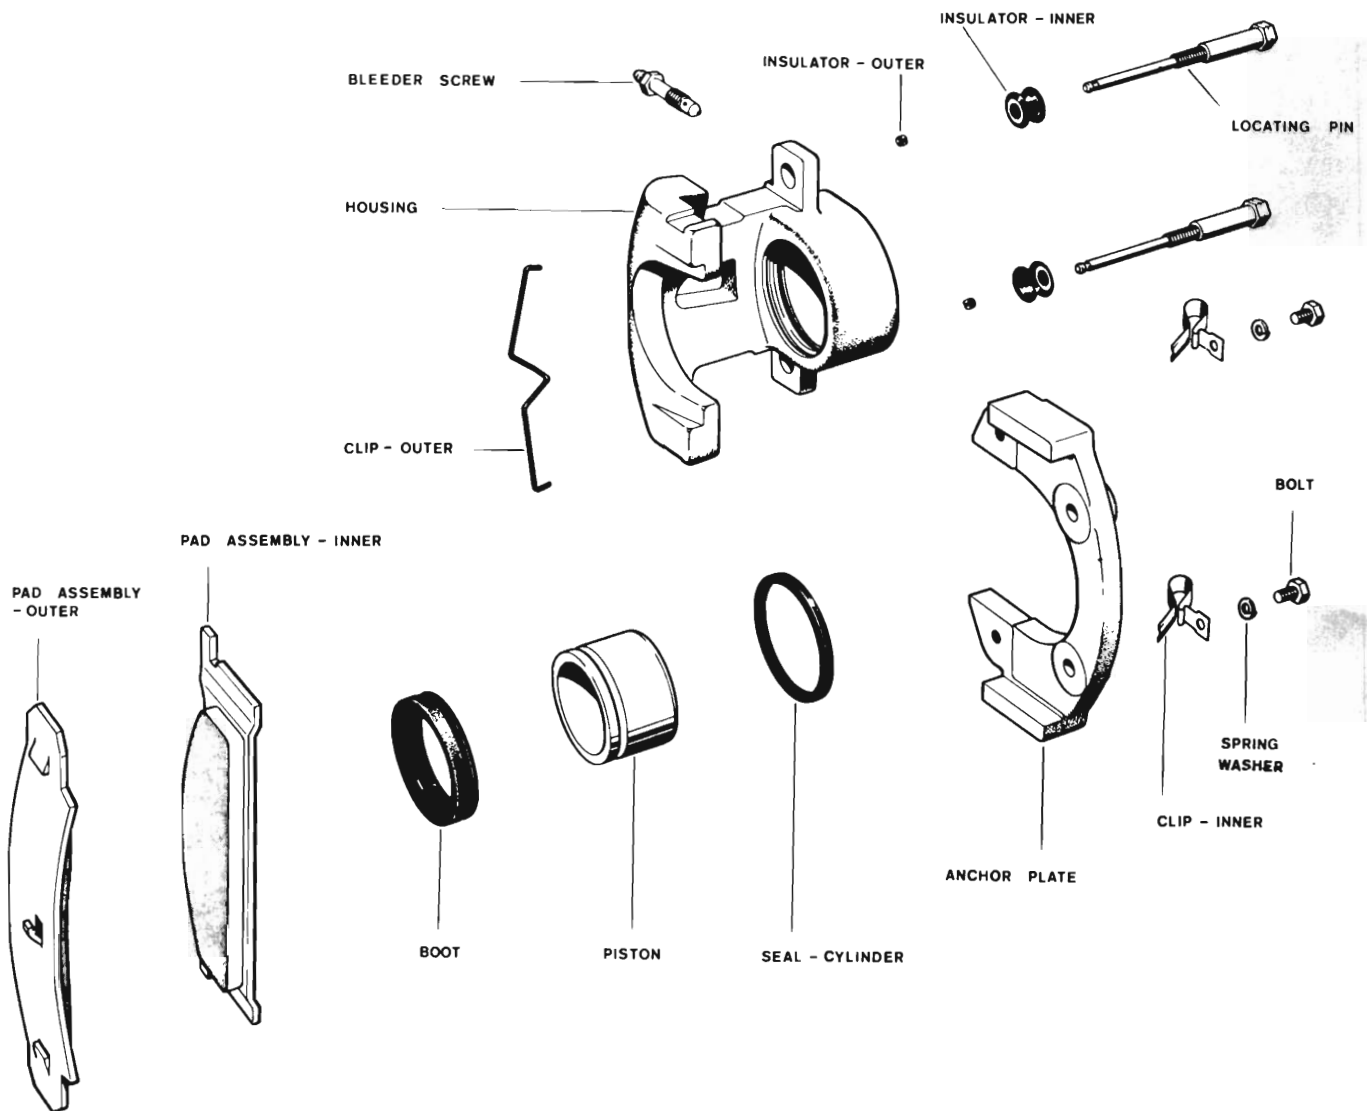

Fig. 10 - Floating head caliper assembly (Disassembled view)
- Extract inner insulators from caliper head and discard. Remove outer insulators from locating bolts and discard. (Refer Fig. 10).